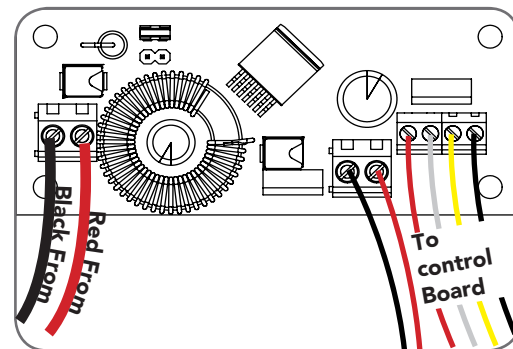

Fig 15
2. Connect the **red wire** to the Charger Board's "**SOLAR+**" connector, and the **black wire** to the "**-SOLAR**" connector (Fig. 15).
5. Connect the **red wire** to the Charger Board's "**BAT+**" connector, and the **black wire** to the "**-BAT**" connector (Fig. 15).